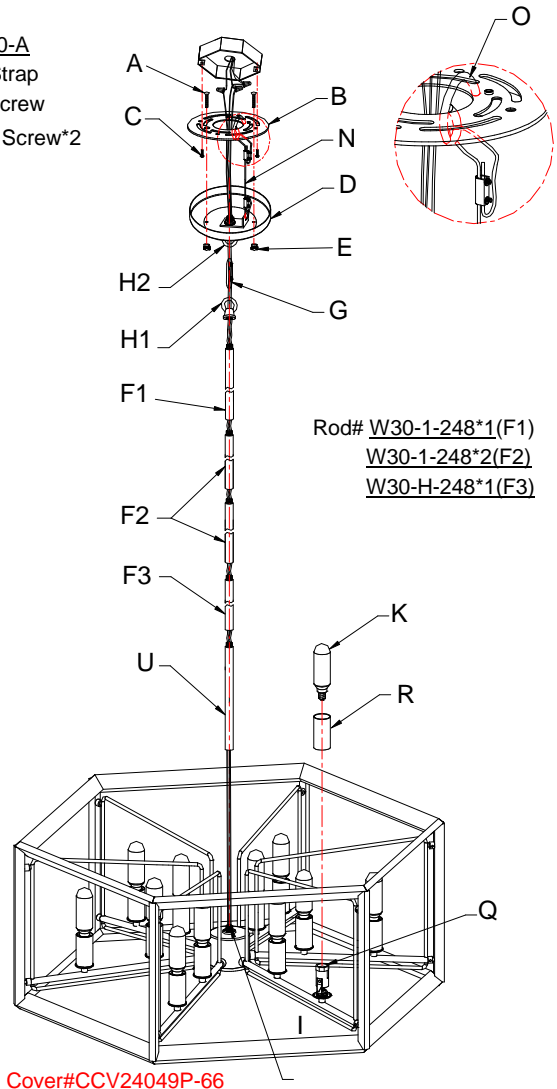

Fig. 3
CONNECTING THE WIRES (Fig. 3)
9. At this point, connect the electrical wires as shown in **fig 3**, making sure that all wire connectors are secured. If your outlet has a ground wire (green or bare copper), connect the fixture's ground wire to it. Otherwise, connect the fixture's ground wire directly to the circular strap (B) using the green screw provided.
10. Tuck the wire connectors neatly into the ceiling Junction Box and then raise the canopy (D) all the way to the ceiling.